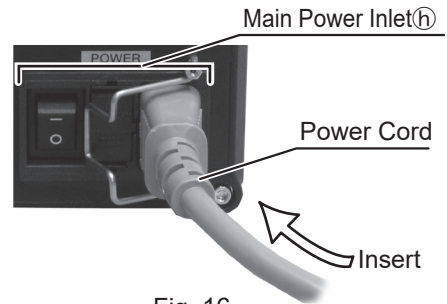

Fig. 16
- (2) Insert the female plug into the main power inlet box on the rear of the control unit. Refer to the Fig. 16.